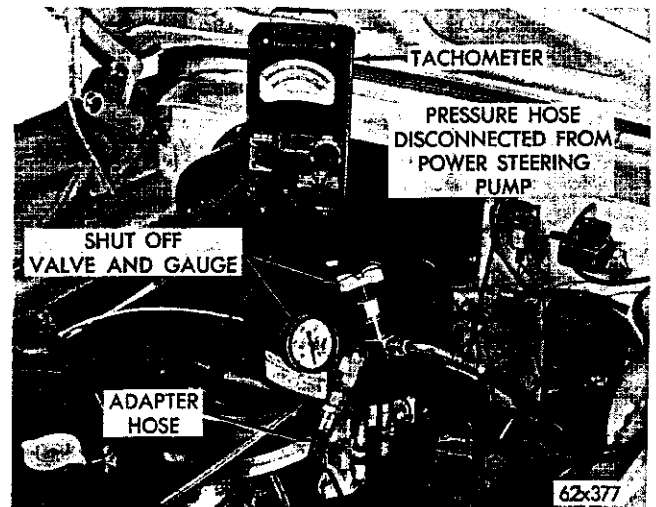

Fig. 54—Pressure Test (Typical)
Tool C-3309B with a shut-off valve between the pressure gauge and the pressure hose that you disconnected from the pump (Fig. 54). **Make sure all connections are tight and that the shut-off valve is fully opened.**
(3) Remove the oil reservoir cover.
(4) Connect one lead of the tachometer (Fig. 54) to the distributor terminal of coil and the other to a good ground, start the engine and operate at 500
(1) Inspect the pump belt tension. See Paragraph "Belt Adjustment."
(2) Disconnect the pump pressure hose at the power steering pump and connect the test hose adapter tube and pressure gauge Tool C-3309B with the proper adapters between the power steering pump and the hose disconnected from the pump (Fig. 54).